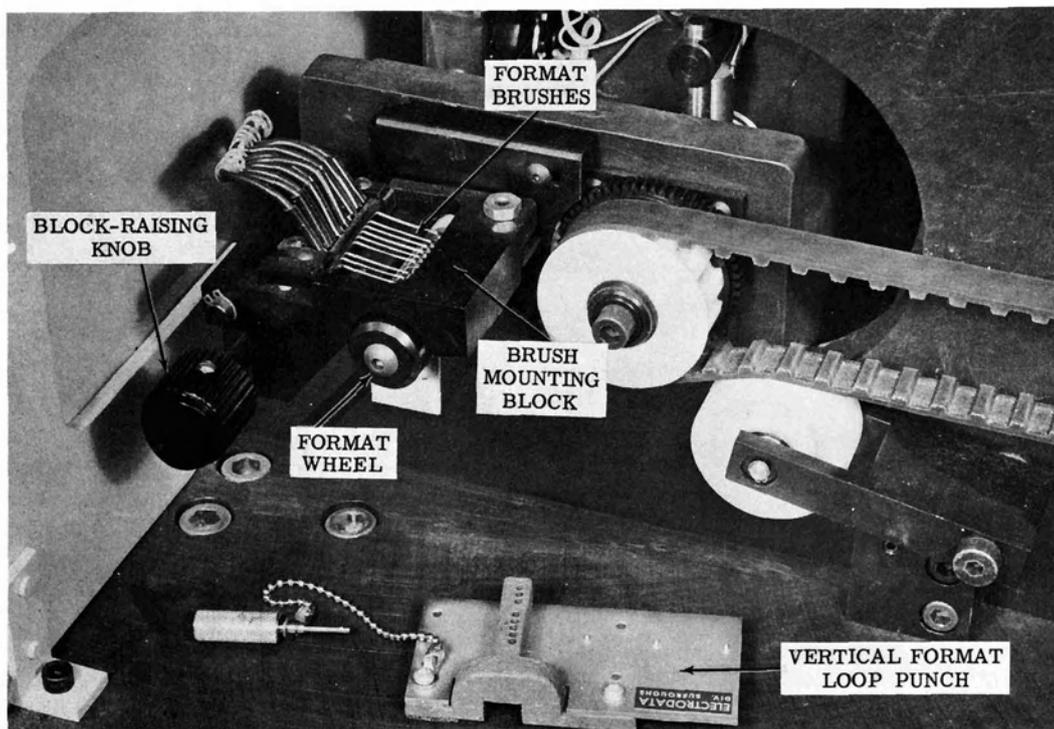

Figure X-4. Vertical Format Control Unit
Vertical Format Unit (VFU) Mechanism. (See Figure X-4) A format wheel is geared to the paper feed shaft and turns an amount proportional to the advance of paper for the printing of each line. The turning of the format wheel feeds a punched format tape between the wheel and eight format sensing brushes. When
- b. Raise the brush mounting block by rotating the block-raising knob. (See Figure X-4).